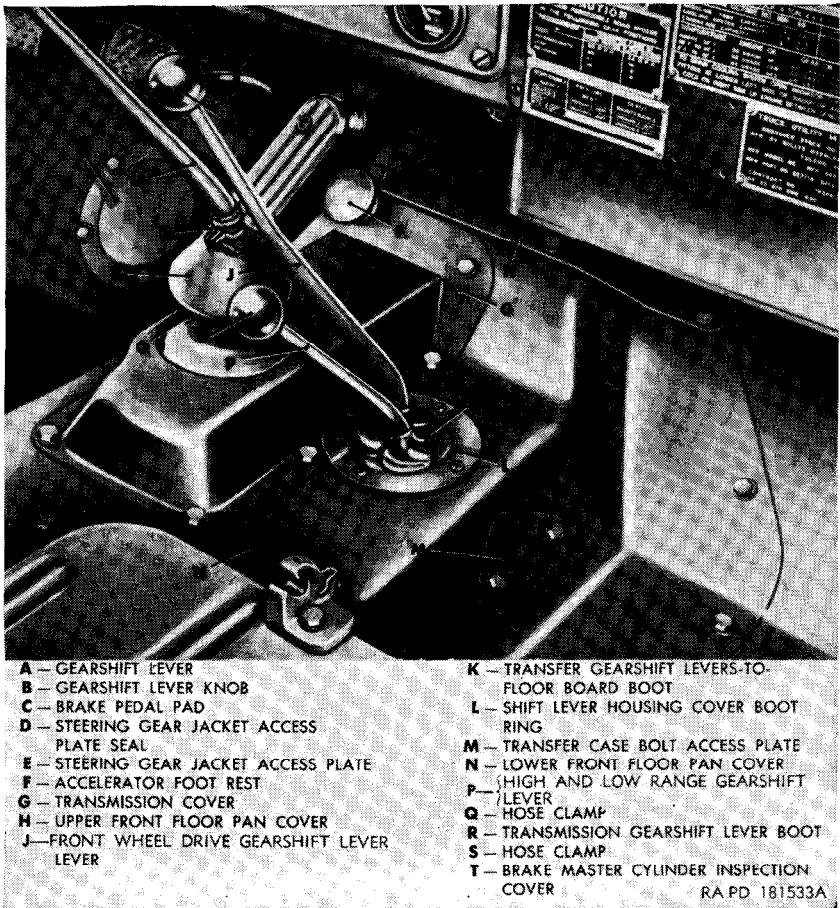

Figure 35. Disconnect points in passenger compartment—floor pan covers installed.
- (8) Pull windshield wiper hose (N) from windshield wiper line (M).
- (9) Remove the two self-locking nuts, four flat washers, and two bolts securing the front mounting support cushion (R) to vehicle frame.
- (10) Loosen the bolt in the upper end of the brake pedal assembly, pull the pad assembly from the pedal assembly and remove the draft pad and draft pad spring from beneath the upper front floor pan cover.
*Note.* The key letters noted in parentheses are in figure 35, except where otherwise indicated.
- (1) Remove the gearshift lever knob from gearshift lever (A) and the gearshift lever knobs (B) from the high and low range gearshift lever (J) and front wheel drive gearshift lever (P).
- (2) Loosen the hose clamps (Q and S) and slide transmission gearshift lever boot (R) off gearshift lever (A). Unscrew gearshift lever housing cap and withdraw lever from transmission. Stuff a clean rag in transmission case opening to prevent foreign material from entering.
- (3) Remove the sheet metal screws securing the shift lever housing cover boot ring (L) and slide ring and transfer gearshift levers-to-floor board boot (K) off shift levers.
- (4) Loosen the two lockwasher bolts securing the transfer case bolt access plate (M) to lower front floor pan cover (N) and swing plate to the rear. Reach through access plate opening, unscrew the pivot pin and remove pin and lock washer. Remove the high and low range and front wheel drive gearshift levers (J and P) and gearshift lever springs from transfer.
- (5) Remove the lockwasher bolts securing the steering gear jacket access plate (E) and steering gear jacket access plate seal (D) in position. Separate and remove the access plate, and slide the seal up on the steering gear jacket.